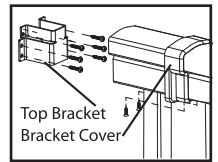

Figure 5
7. Slide top rail bracket covers onto top rail. Slide the metal top rail brackets into the ends of the top rail (Figure 5). Place top rail on spindles inserting spindles one at a time while holding at an upward angle. Make sure rail is flush on all spindles (Figure 6). **Note:** If the railing is trimmed down from its original length, it may be necessary to notch the spindles closest to the posts for proper fit around the inserted metal bracket.